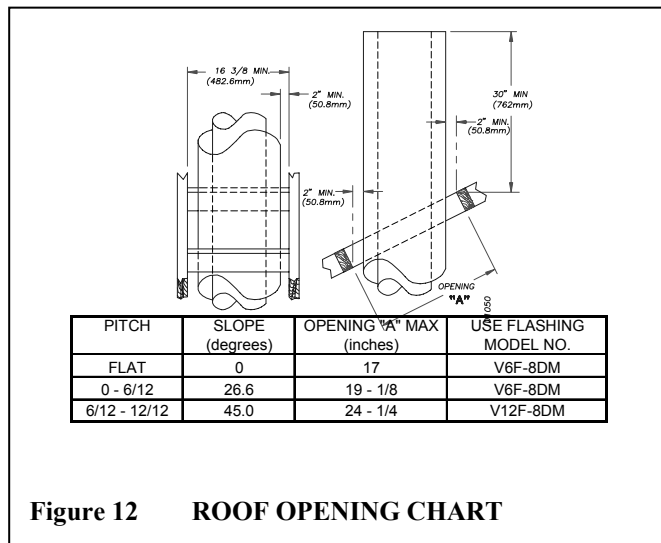

Figure 12 ROOF OPENING CHART
STEP 3: Use the roof opening chart (figure 12) to determine the correct opening length and flashing required.